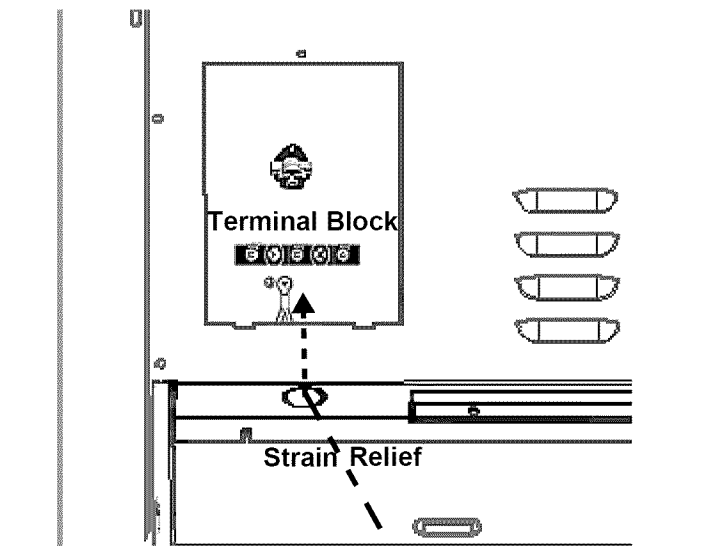

Figure 12: Strain Relief Location
Mount a strain relief (not provided) into the 1” (25.4mm) diameter hole located below the terminal block (see *Figure 12*). Wiring for the unit is to be brought into the terminal block through the conduit and through the strain relief. The ends of the wiring must have 1/4” (6mm) faston closed-loop lugs attached, preferably soldered in place. Make the connections to the terminal block provided.
2. Mount strain relief (not provided with range) into the 1" (25.4mm) diameter hole in the back panel located below the terminal block (see *Figure 12*). Route wires up through strain relief.